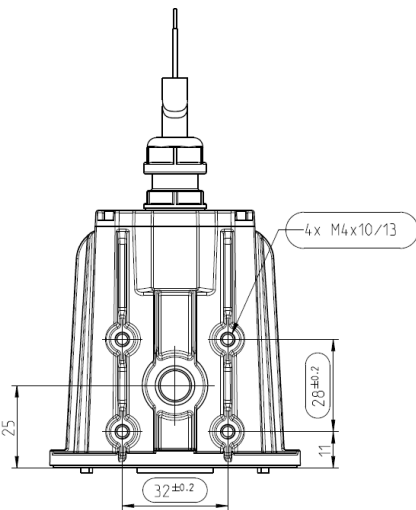

Fig. 3
- To ensure that the leak sensor functions correctly, install the pump vertically or horizontally as shown in Fig. 3.